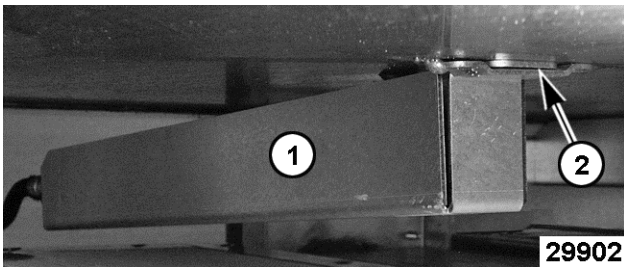

Fig. 7
- A. Pull thermocouple shield (1, Fig. 7) toward the front of griddle to disengage the rear mounting tab (2, Fig. 7) on thermocouple shield, from the support bracket on the bottom of griddle plate. Rear view of thermocouple shield shown in Fig. 7.